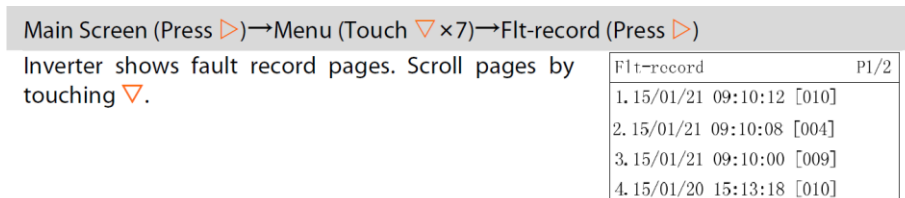

Figure 1 Fault records
Step 1: Go to the **fault records** (as shown in Figure 1).